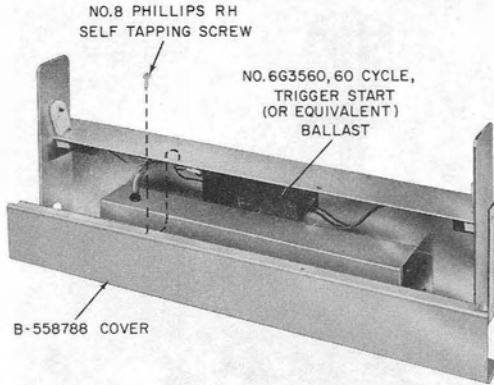

Fig. 15—KS-19322, List 1 Sign—Bottom View with Cover Removed
- (b) Remove the bottom cover (Fig. 15) to make wiring area accessible.
- (g) Install bottom cover (Fig. 15), lamp, sign panel, end caps, and top cover.